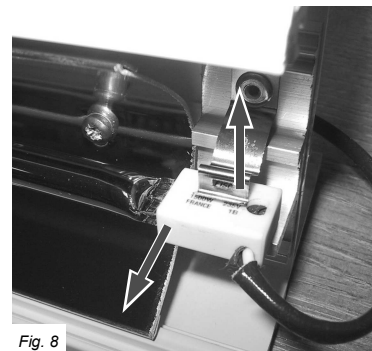
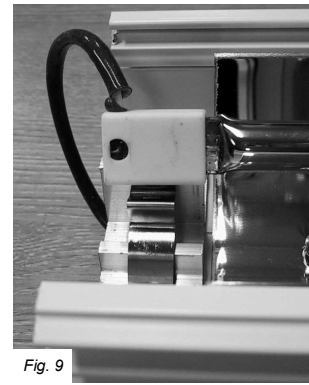
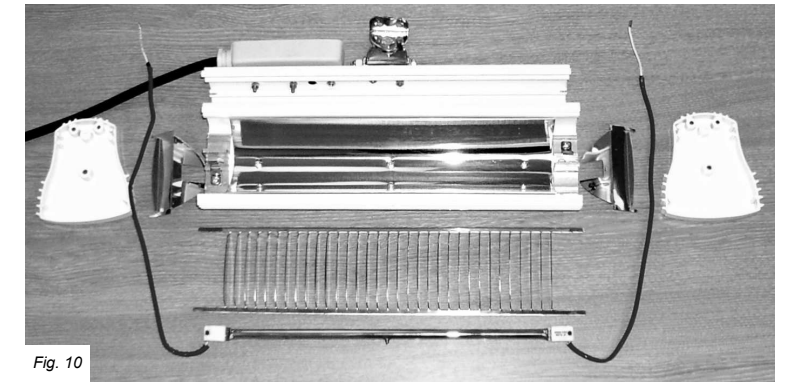

Fig. 8
Fig. 9
Fig. 10
10. Release the emitter end by pulling the top edge of the spring clip away from the emitter on the emitter holder (a small screwdriver can be inserted into the small slot to assist pulling the clip back). Gently lift the end of the emitter upwards so it is no longer being fully retained by the clip but leave half in as shown in Fig. 8. Repeat at the opposite end and fully remove the lamp from the clip. The opposite end of the emitter can be fully released now and the emitter completely removed (Fig. 9). The heater should now be broken down in its part form as shown in Fig. 10.